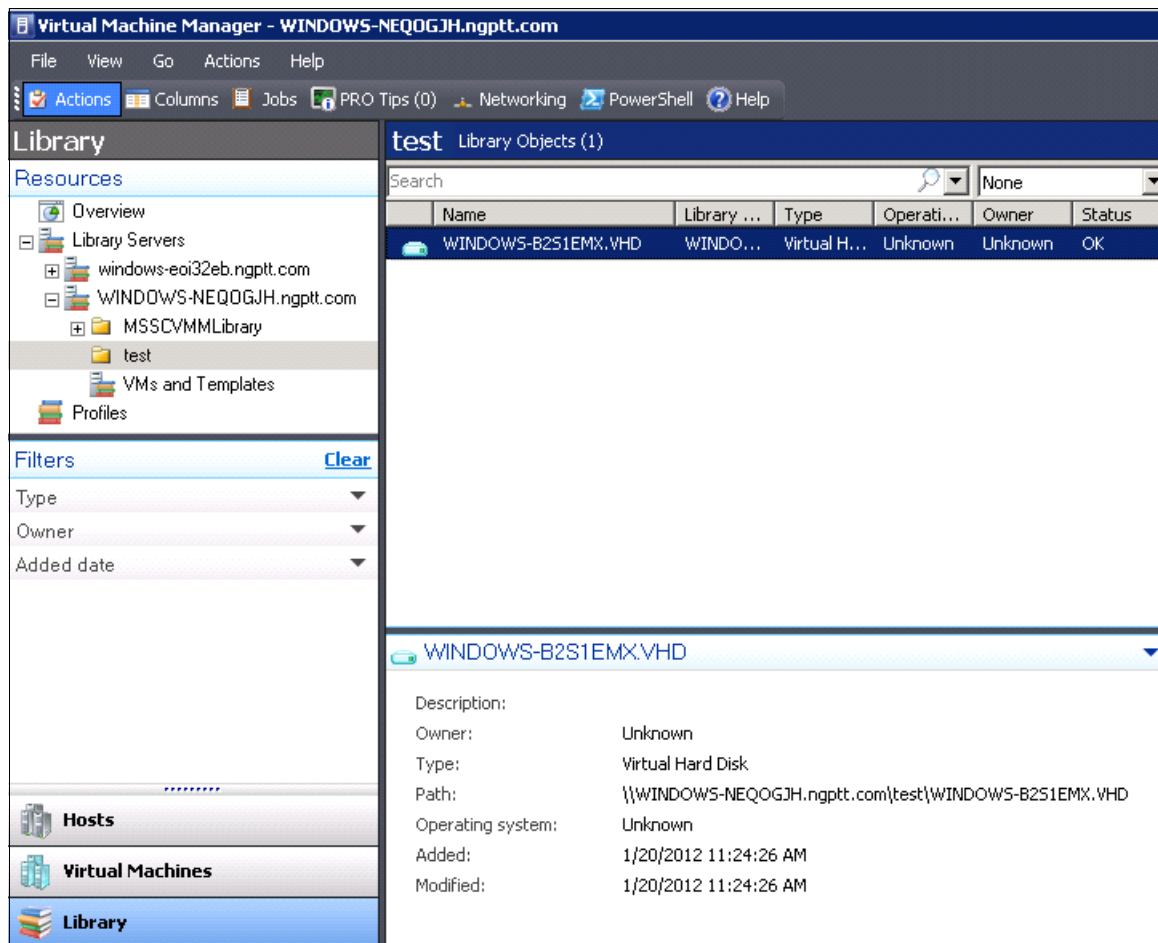

Figure 3-11 VHD added to the Library tab
- The VHD file is listed in the Library tab, as shown in Figure 3-11.